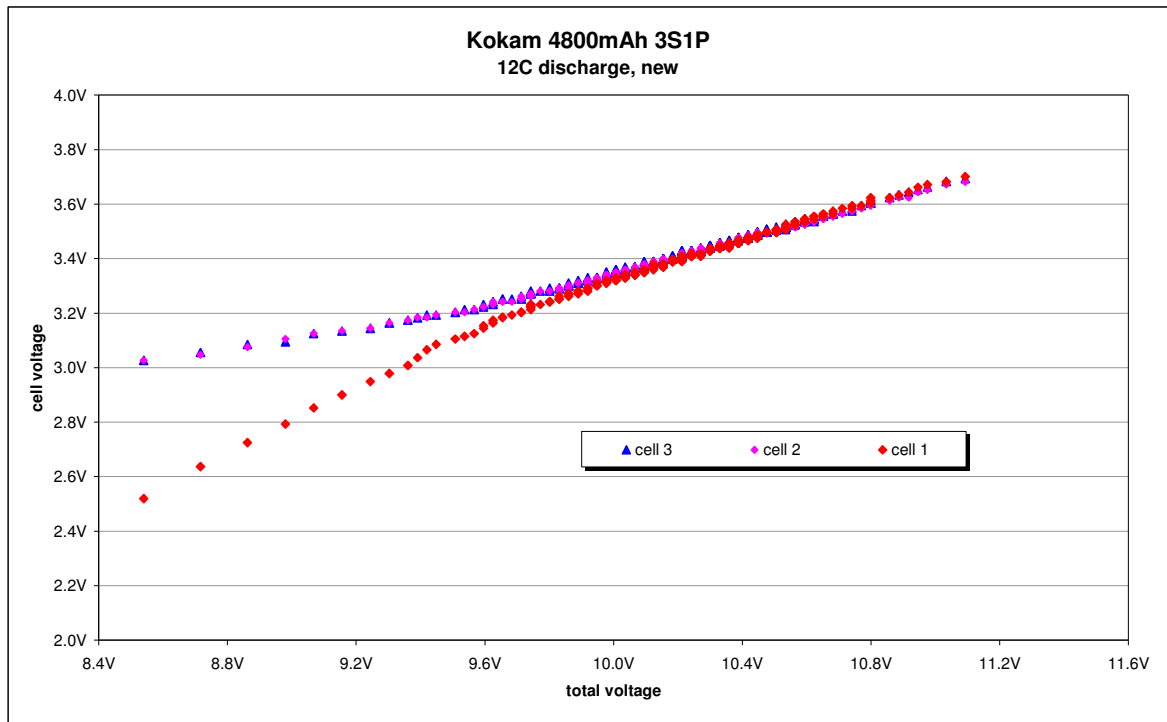

Fig. 3 Individual cell voltages during 12C discharge, initial state
3) Voltage symmetry during 12C discharge (Fig. 3 and 4) Initially, cell #1 had more than 2% less capacity. At the end of the test the voltage symmetry was clearly better than before and the measured capacity mismatch was ~1%.